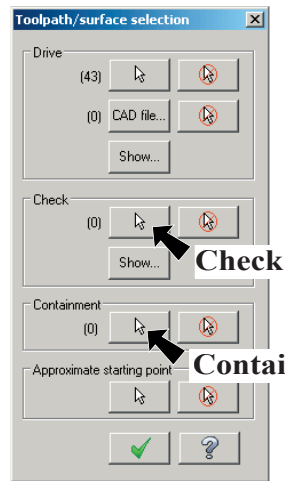

Fig. 70
Step 9. Click **Check Select** button, **Fig. 70**.
Step 13. Click **Containment Select** button, **Fig. 70**.